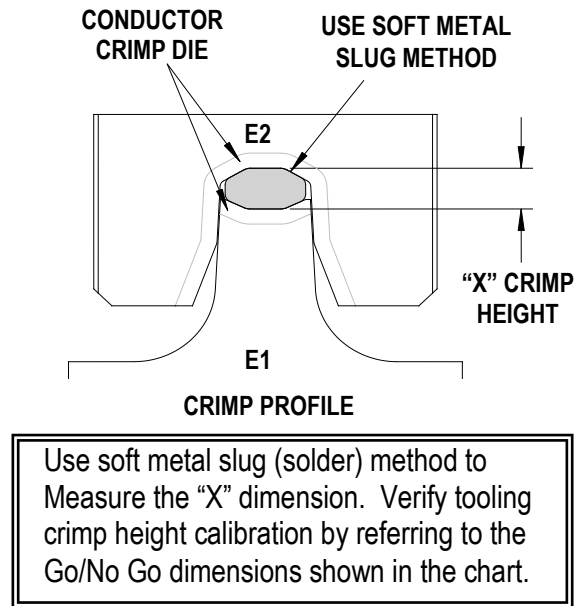

Figure 1
3. The recommended method of measuring the crimp height of the conductor dies is the soft metal slug method. See Figure 1.